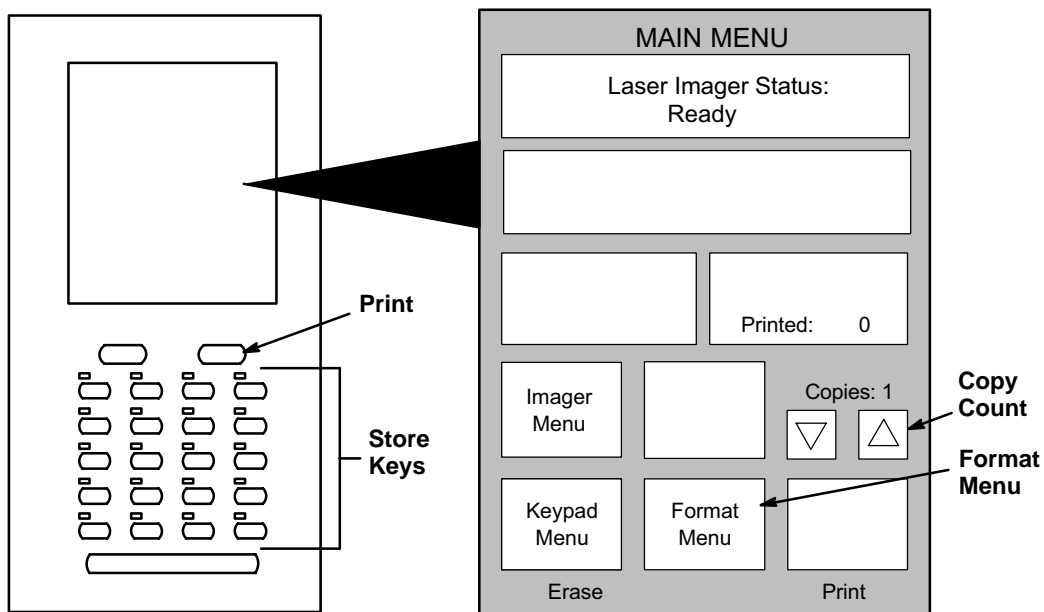

Figure 4-6. Formatting/Acquiring/Printing
2. On the keypad's Main Menu, press the **Copy Count Set** keys (see Figure 4-6) to select the number of copies desired.